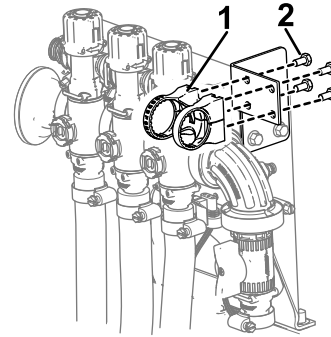

**Figure 19**
3. Assemble the valve mount onto the control valve as shown in A of Figure 19.
4. Secure the valve mount to the control valve with the flange-head screw (#6), and tighten the screw by hand (B of Figure 19).